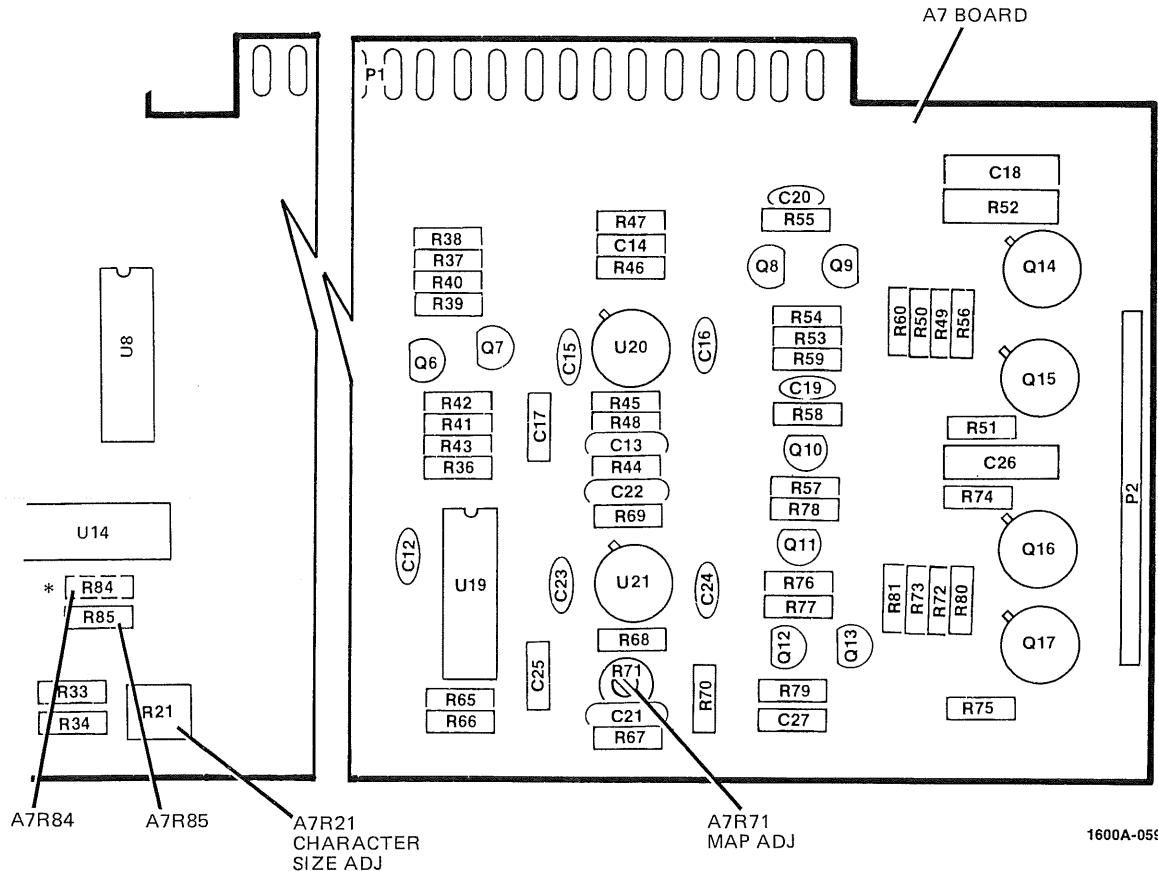

Figure 5-14. Map and Character Size Adjustment/32-bit Word Modification
**5-27. CUSTOMER MODIFICATIONS.****5-28. 32-BIT WORD DISPLAY. (See figure 5-14.)**